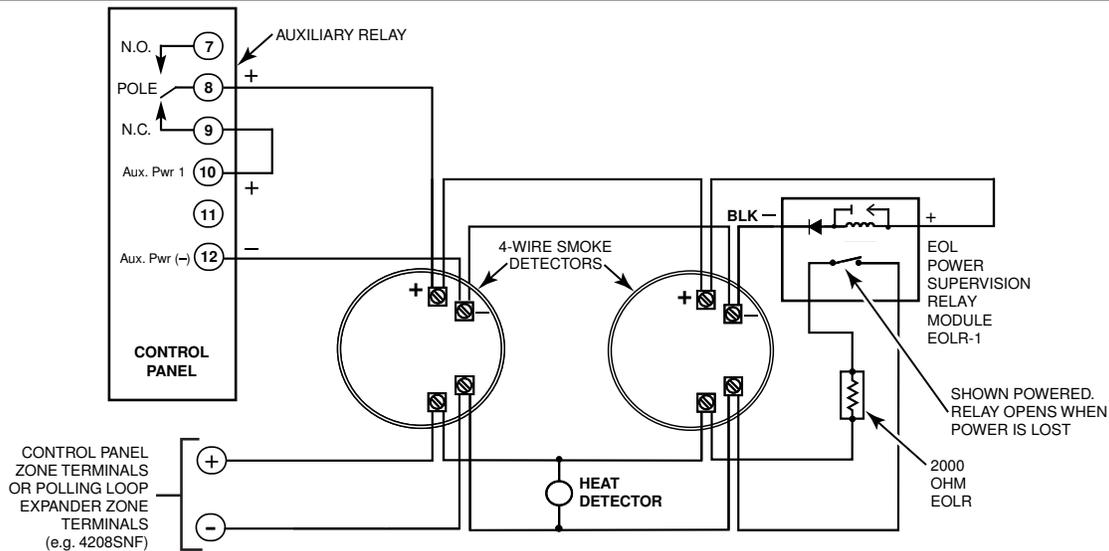

Figure 3-13: 4-Wire Smoke Detectors
- Power to 4-wire smoke detectors must be supervised with an EOL device (use a System Sensor EOLR-1 EOL relay module connected as shown in *Figure 3-13*).
2	Connect detectors (including heat detectors, if used) across terminals of the zone selected. All detectors must be wired in parallel. See Figure 3-13 .